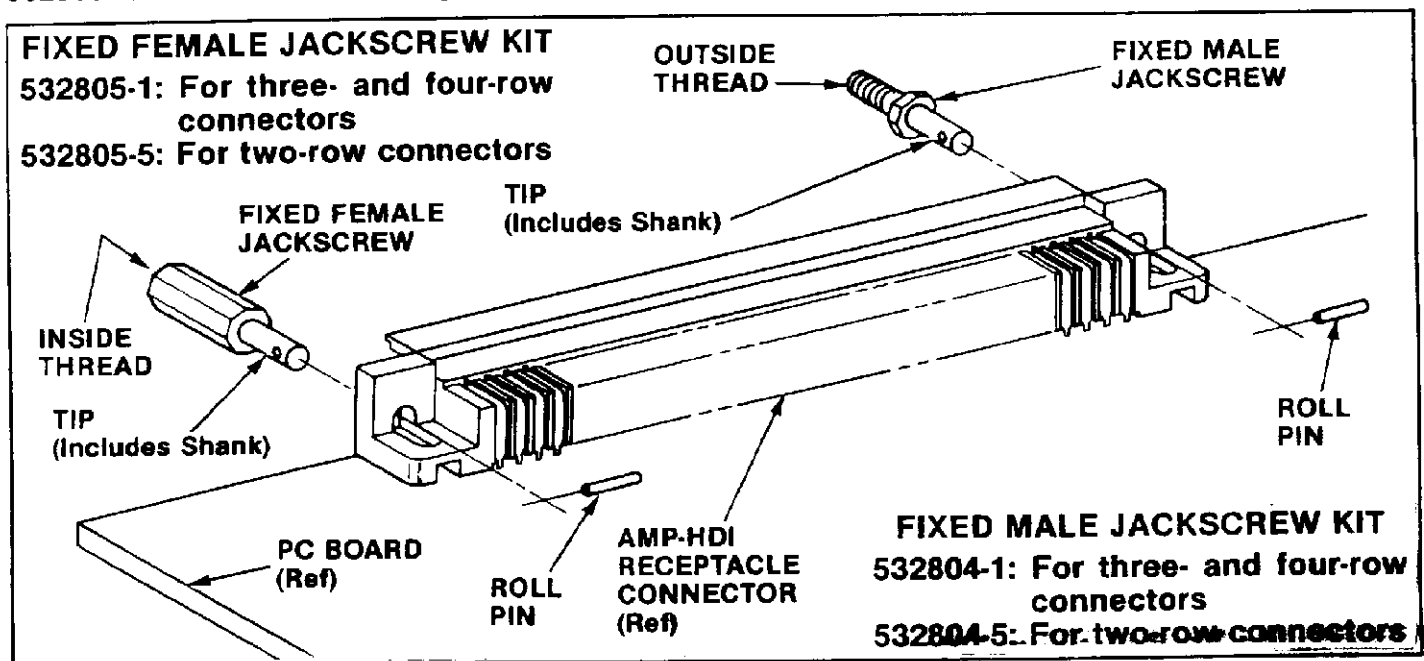

Fig. 2
The use of different styles of jackscrews can prevent connectors from mismatching. Figures 2 and 3 illustrate how different styles of jackscrew hardware—male and female—can be installed on both the pin and receptacle connectors. Note that two of the same style can be used in the same connector.
2. Assemble each kit by first inserting the jackscrew tip into the front—or mating face—of the receptacle connector as shown in Figure 2, making certain that the chamfered hole in the shank is visible. If using three- or four-row connectors, the chamfered hole will be visible from the sides. If using two-row connectors, the hole will be visible from the top.
3. Using needle-nose pliers, install the roll pin into the shank of the jackscrew tip. See Figure 2.